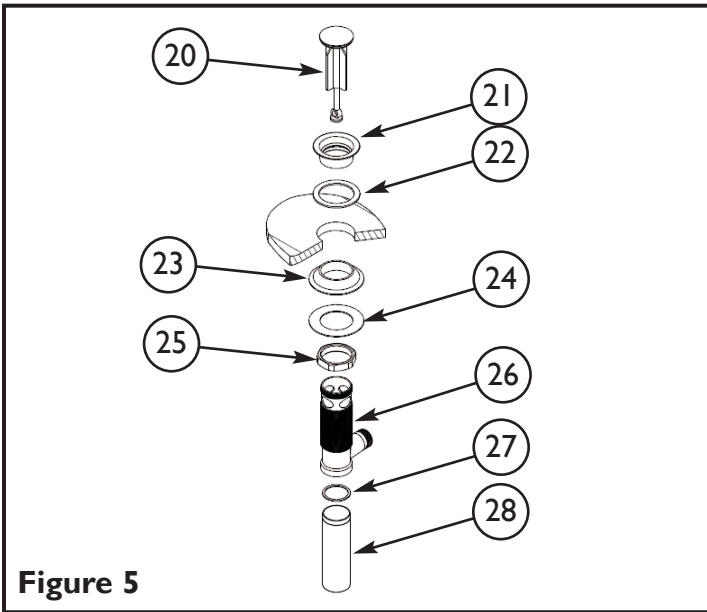

Figure 5
6. Remove drain PLUG (20) from FLANGE (21). Place FLANGE (21) and white WASHER (22) through sink drain opening. (Clear silicone may be used in place of white washer). Place NUT (25), clear WASHER (24) and cone shaped rubber WASHER (23) into drain BODY (26). **Note:** Cone portion of washer should face upward. From bottom side of sink, place the BODY (26) and tighten to FLANGE (21). Next slide up cone shaped rubber WASHER (23) and clear flat WASHER (24) against sink bottom and secure the drain BODY (26) by tightening the NUT (25). Apply thread sealant to TAILPIECE (28) and attach TAILPIECE (28) and WASHER (27) to drain BODY (26). Attach TAILPIECE (28) to p-trap drain, not included. See **Figure 5**.